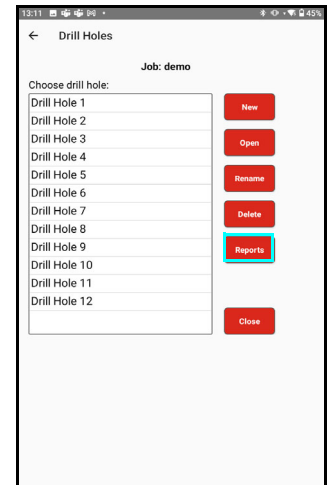

Figure 62
1. Open a Job to access the Drill Hole menu and tap [Reports] (Figure 62).